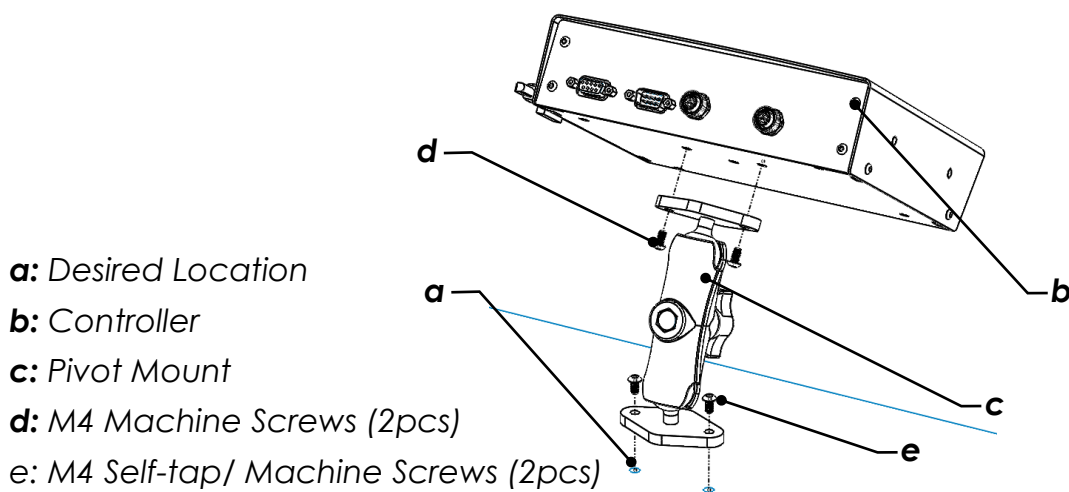

Figure 25
- Align the holes on the back of the controller with other two holes on the controller pivot mount and use two M4 screws to fix it in place (see Figure 25).